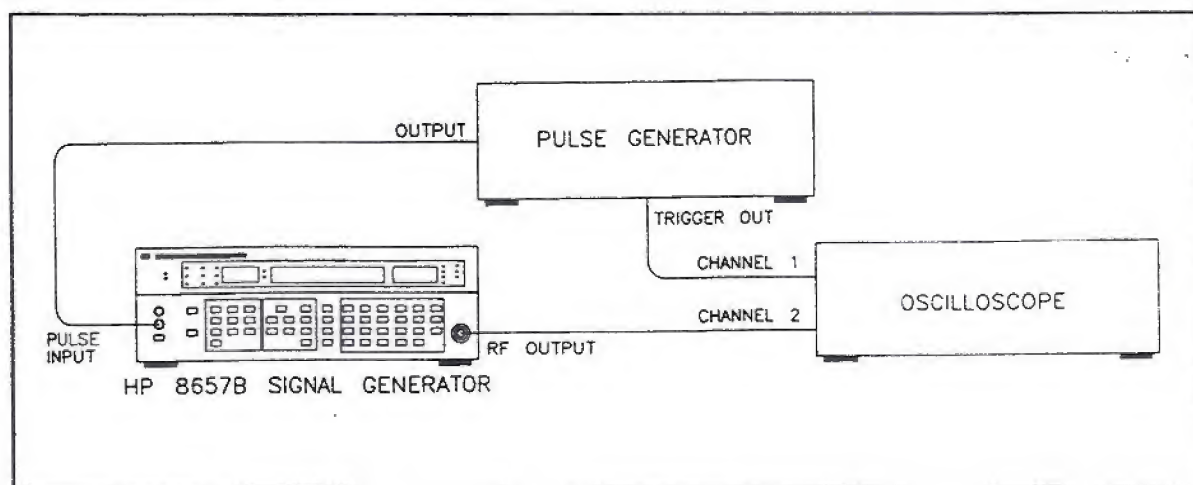

Figure 4-12. Modulation Test Setup
31. Connect the equipment as shown in Figure 4-12.